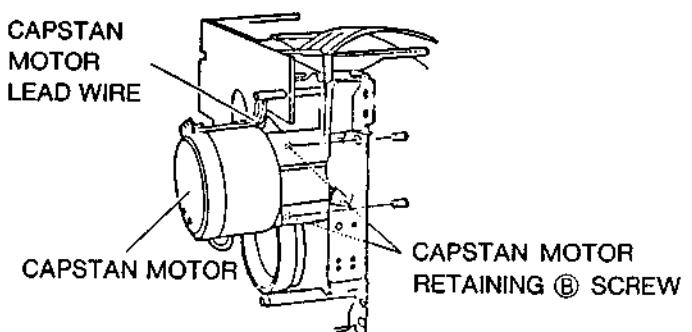

Fig. 2-6
- 1) Remove the CAPSTAN MOTOR RETAINING Ⓐ SCREWS. (refer illustration Fig. 2-6)